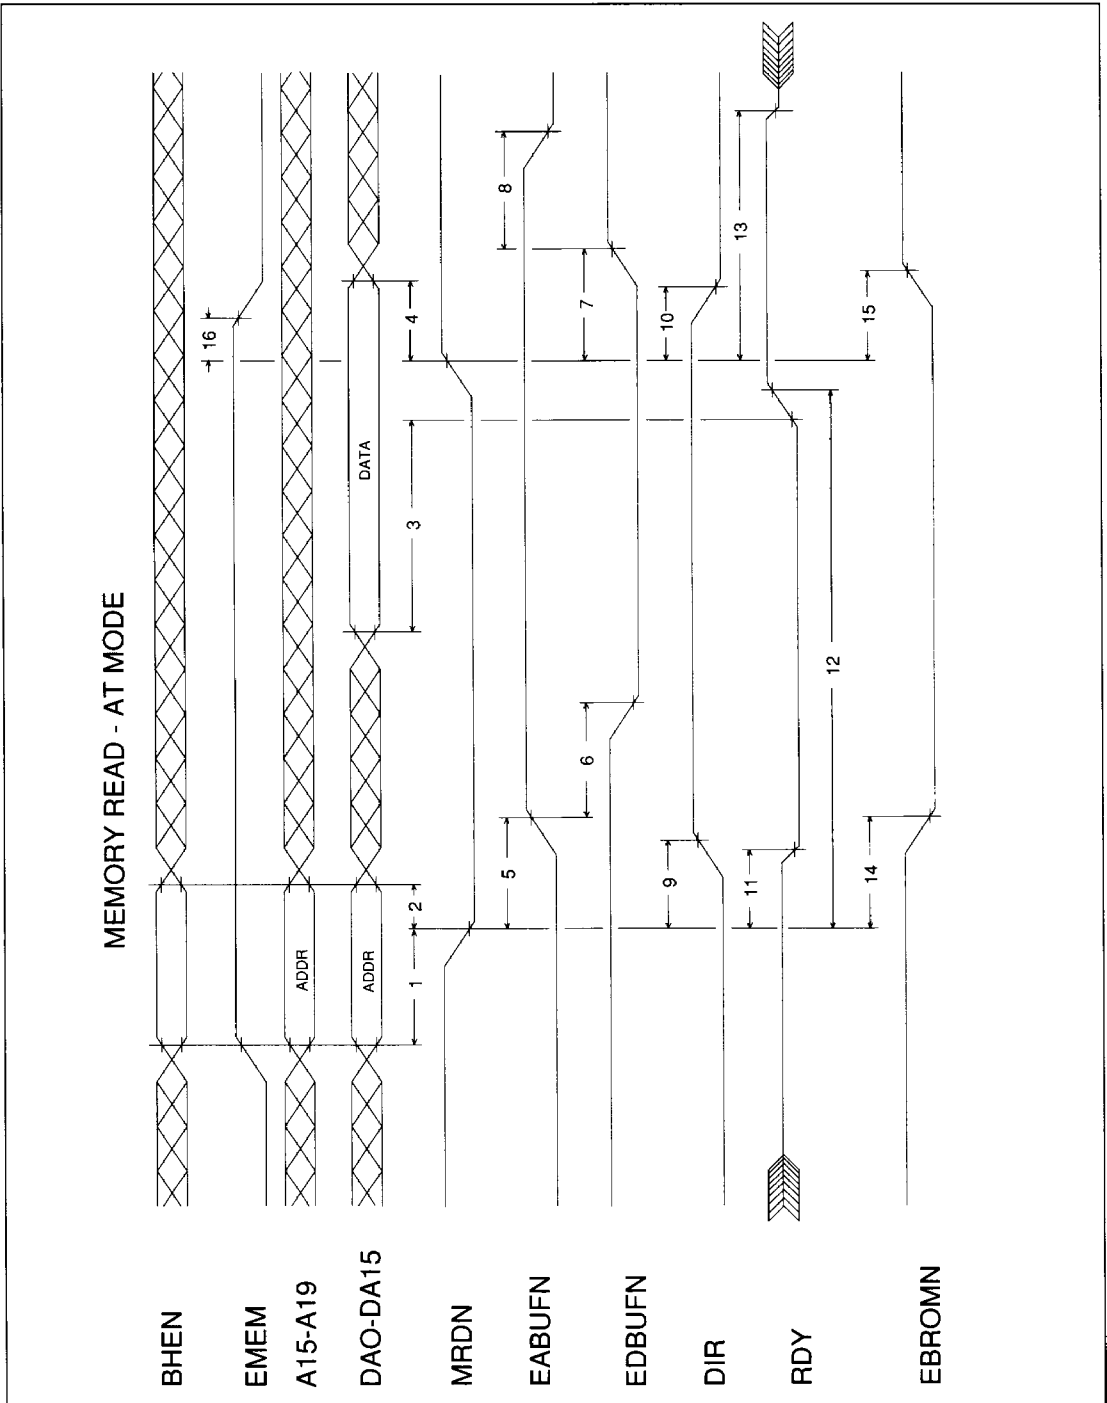

Figure 5. Memory Read - AT Mode
6.1 I/O WRITE - AT MODE TIMING DIAGRAM (See Figure 5)